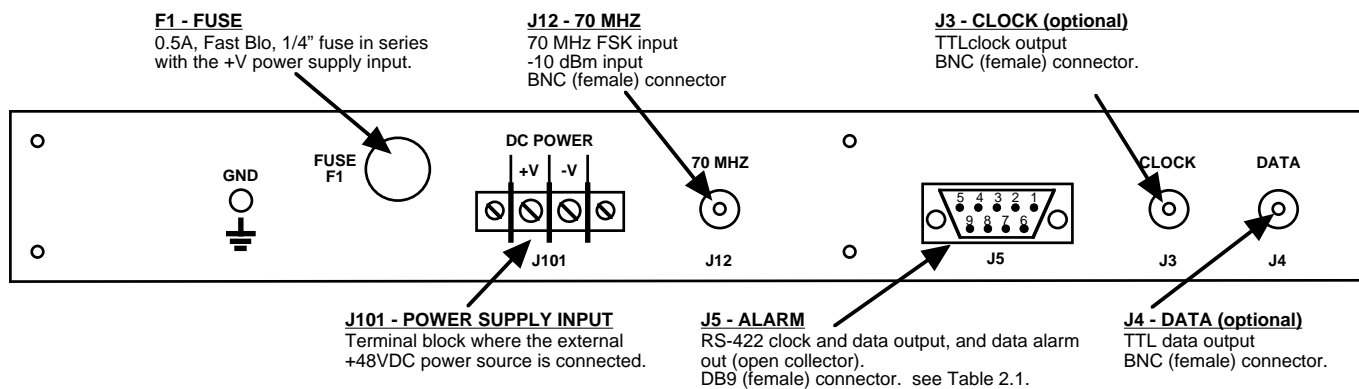

FIGURE 2.1 2711-70 Rear Panel I/O's
Figure 2.1 shows the input and output connectors on the rear panel.
3. Connect +48VDC to DC POWER terminal block, J101, on the back panel (Figure 2.1).
5. Connect DB9 connector, J5, to external equipment (TTL option - DATA and CLOCK connector, J4 and J3) (Figure 2.1).